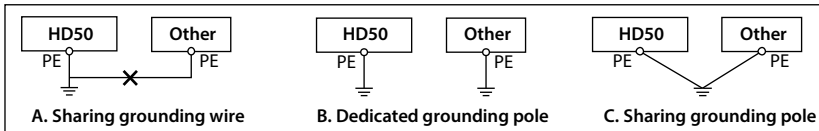

Figure 4-33 Grounding method
Do not share the grounding wire with other devices (A). HD50 can share grounding pole with other devices (C). It achieves the best effect if HD50 and other devices use dedicated grounding poles (B), as shown in Figure 4-33.